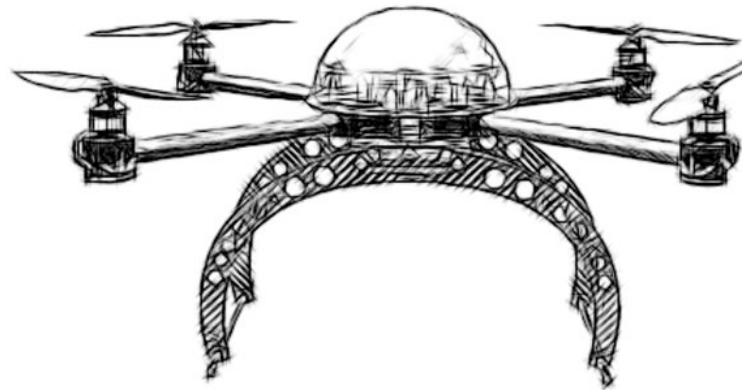

Figure 1. Basic Quadcopter or Quadrocopter motor configuration (frame by Droidworx)
A multi-rotor aircraft is a remote controlled vehicle that utilizes more than one motor to provide lift and control flight. Just as a table must have three legs, at a minimum a multi-rotor aircraft must have three motors. It is possible to have fly a vehicle through the air using only two motors but that is not the intent of the HoverflySPORT™. We consider a multi-rotor vehicle to contain at least three motors. However, this would require that one or more of the motors could turn on an axis perpendicular to the center of the airframe. Therefore, the minimum number of motors that must be used with the HoverflySPORT™ is four (4). In addition, the orientation of these motors needs to be at equal angles. For a four motor aircraft the orientation of the motors would be all pointing in the same direction (usually up) and they would be positioned at the end of two straight crossed members as shown below, Fig. 1.